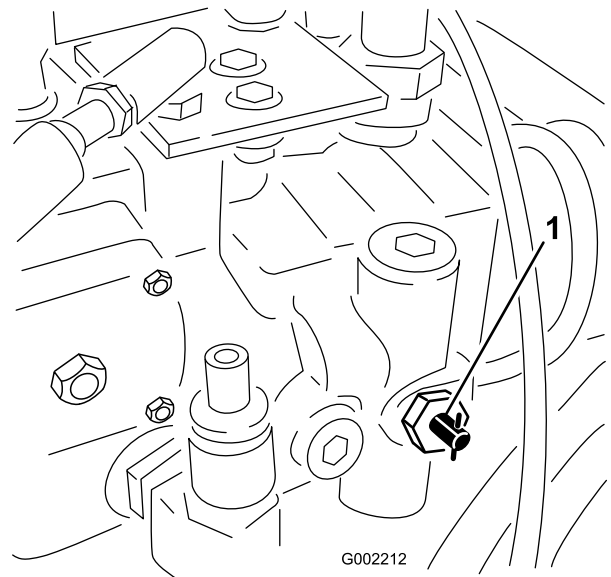

Figure 43
1. Rotate the tow valve (Figure 43) 90 degrees in either direction to open it.